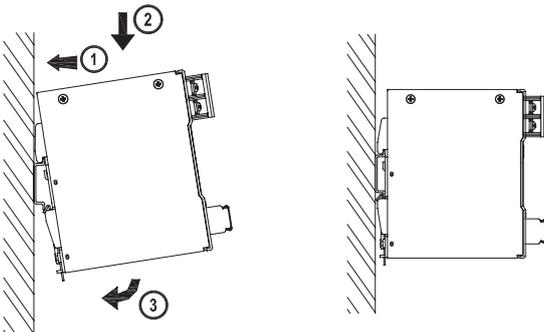

Figure 2
3. Mounting (Fig. 2)
The power supply unit can be mounted on 35 mm DIN rails in accordance with EN60715. The device should be installed with input terminal blocks on the bottom. Each device is delivered ready to install. Snap on the DIN rail as shown in Fig. 2: